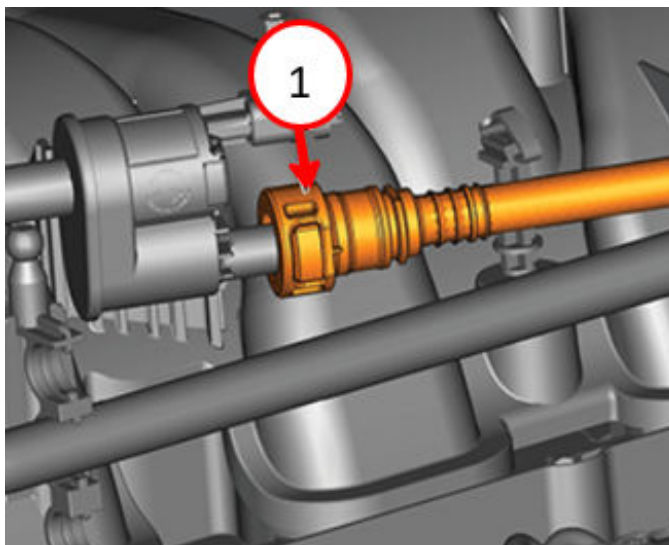

Fig. 2
4. Disconnect the vapor purge line at the canister purge solenoid Fig. 2.
6. Connect the vapor purge line at the canister purge solenoid Fig. 2.